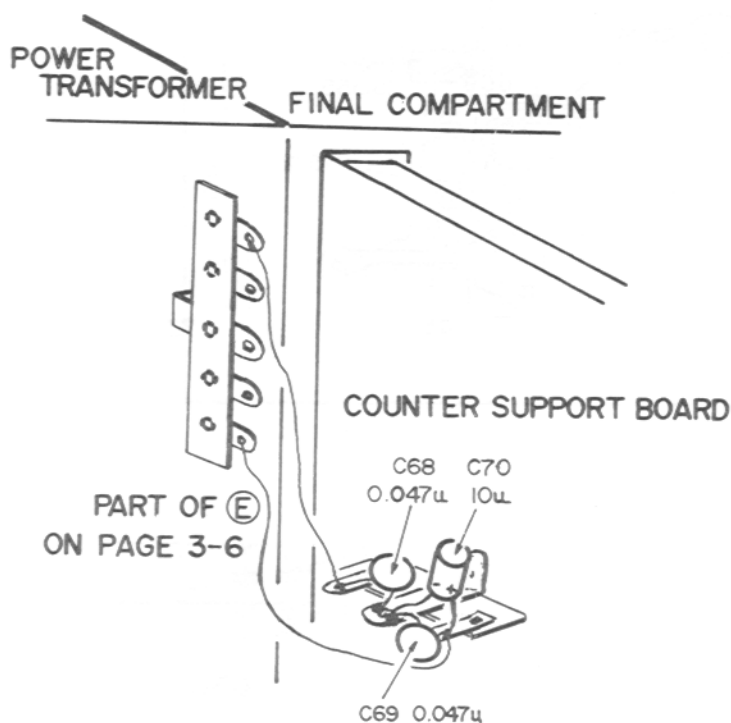

Figure 19.
(1) In sets from production lots 1 through 4:
- (a) Solder a three-pin (one grounded) solder lug to the Counter Support Board, as shown in Figure 19.